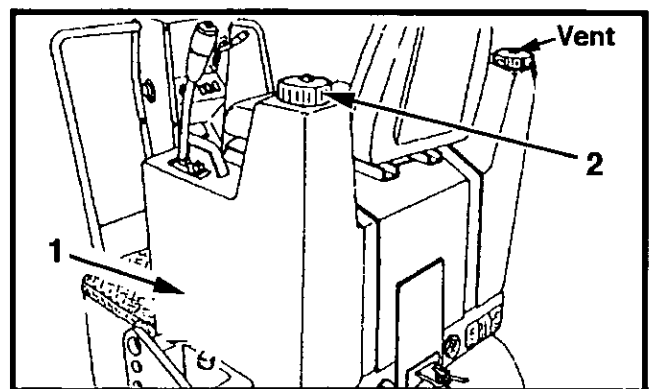

Figure 5-13 Water Tank and Fill Caps
The water supply for the water sprinkler system is held in a tank (1, Figure 5-13).
2. If water level is low, remove the fill cap (2, Figure 5-13), located on the tank, and add clean water to the full level. Ensure the vent (Figure 5-13) is clear.